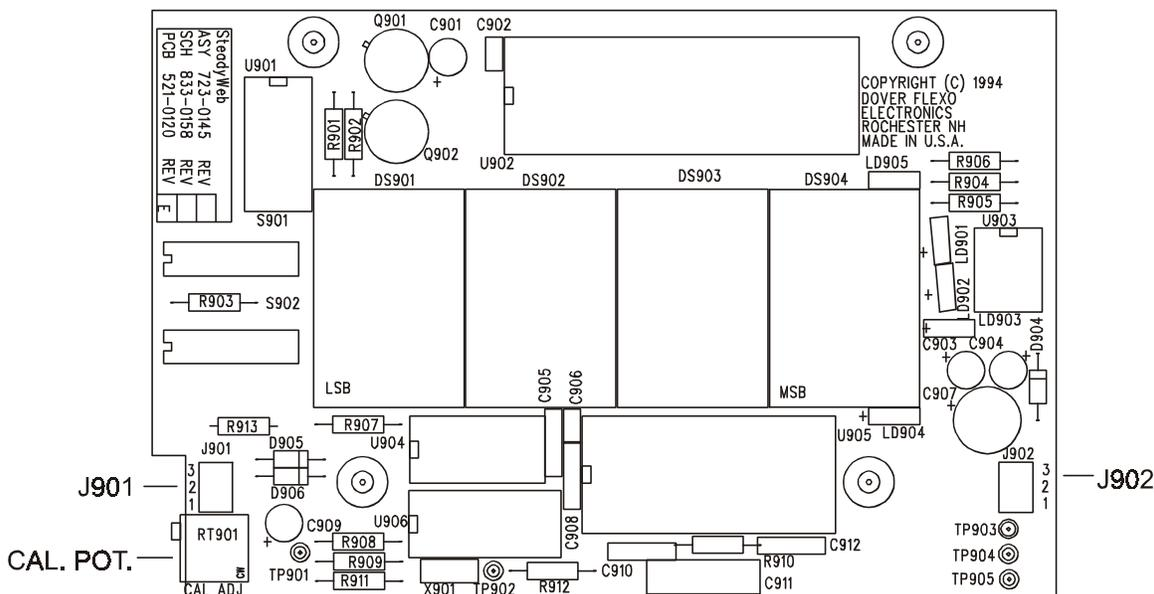

Figure 18 - DIGITAL METER BOARD
5.3 DIGITAL METER (DM) See Fig 18